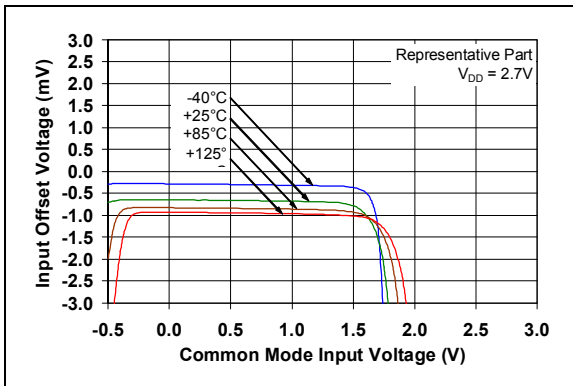

**FIGURE 1-1:** AC and DC Test Circuit for Most Specifications.
Electrical Characteristics: Unless otherwise indicated, $T_A = +25^\circ\text{C}$ , $V_{DD} = 5.0V$ , $V_{SS} = \text{GND}$ , $V_{CM} = V_{SS}$ , $V_{OUT} \approx V_{DD}/2$ , $V_L = V_{DD}/2$ , and $R_L = 10\text{ k}\Omega$ to $V_L$ (refer to Figure 1-1).
**Electrical Characteristics:** Unless otherwise indicated,  $T_A = 25^\circ\text{C}$ ,  $V_{DD} = +5.0\text{V}$ ,  $V_{SS} = \text{GND}$ ,  $V_{CM} = V_{SS}$ ,  $V_{OUT} \approx V_{DD}/2$ ,  $V_L = V_{DD}/2$ ,  $R_L = 10\text{ k}\Omega$  to  $V_L$  and  $C_L = 60\text{ pF}$  (refer to Figure 1-1).
The circuit used for most DC and AC tests is shown in Figure 1-1. This circuit can independently set  $V_{CM}$  and  $V_{OUT}$ ; see Equation 1-1. Note that  $V_{CM}$  is not the circuit's common-mode voltage ( $(V_P + V_M)/2$ ) and that  $V_{OST}$  includes  $V_{OS}$ , plus the effects (on the input offset error,  $V_{OST}$ ) of temperature, CMRR, PSRR and  $A_{OL}$ .